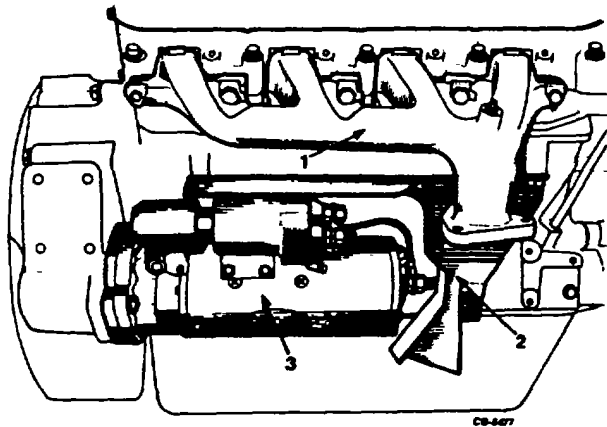

Figure 9. Remove Exhaust Manifold, Heat Shield and Starting Motor
- b. Remove exhaust manifold heat shield (Figure 9).